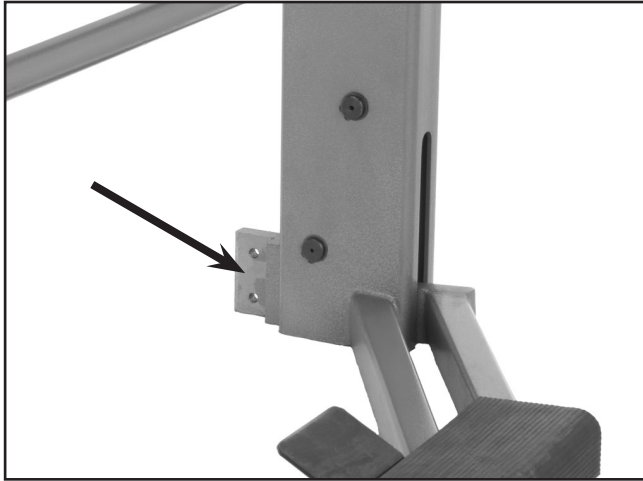
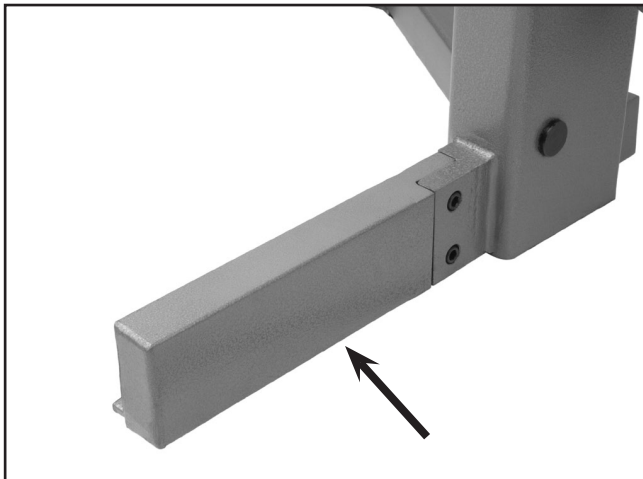

Figure 6. Location on main body to install base extension brackets.
Figure 7. Base extension bracket installed onto main body (one of two brackets shown).
2. Line up the bracket holes (**Figure 6**) with the holes on the bottom of the main body legs and secure with the four cap screws, as shown in **Figure 7**.